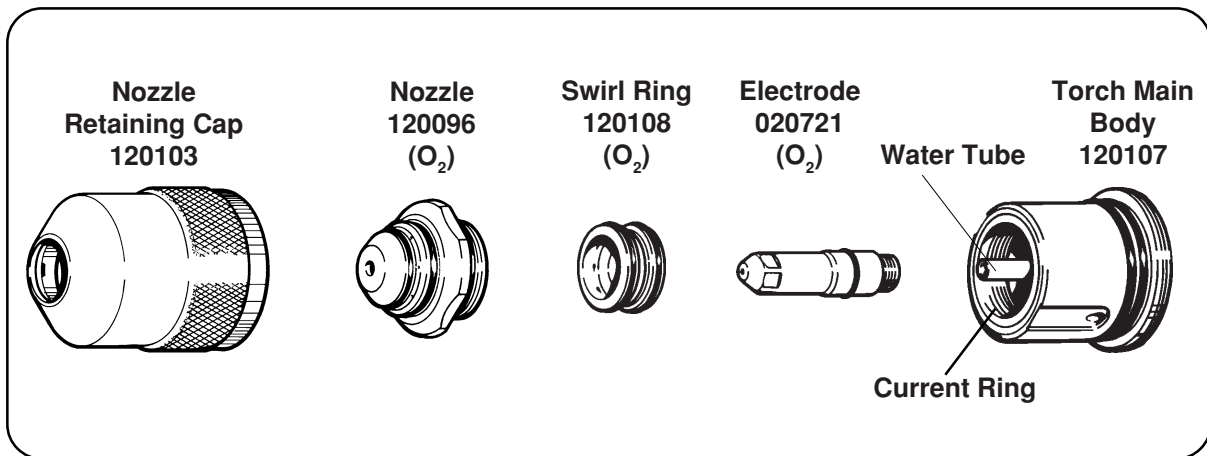

Figure 3-7 Changing Consumable Parts
- Wipe the current ring in the torch with a clean paper towel or Q-tip (see Figure 3-7).
10. Turn on the power supplies by depressing the **POWER ON (1)** button (PB1) on the master power supply and holding down for five seconds. Ensure the green **POWER ON** indicator (LT1) and all seven green LEDs on the master power supply and the white **AC ON** indicator (LT1) on the slave power supply are lit. If the seven green LEDs do not light, see *STATUS LED Troubleshooting* in **Section 3** of the Maintenance manual IM167 (#801670).
Inspect the consumable parts before cutting for wear, and replaced when needed. Follow the instructions below to inspect and replace the consumables and refer to Figure 3-7.